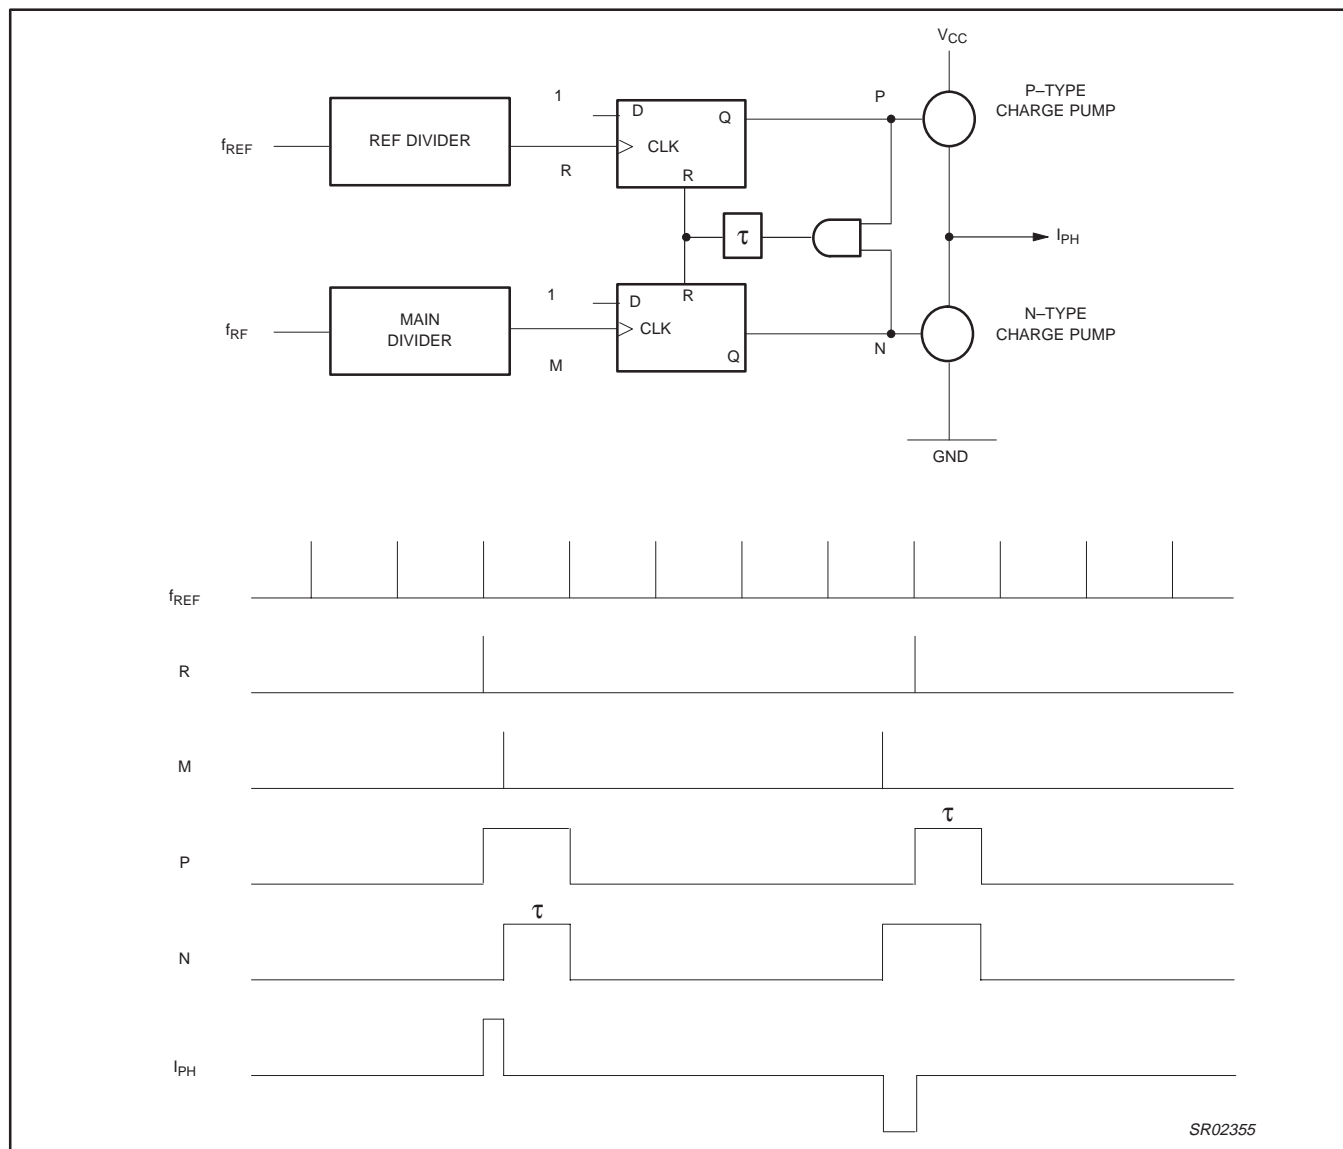

Figure 6. Phase Detector Structure with Timing
12.3 Phase detector (see Figure 6)